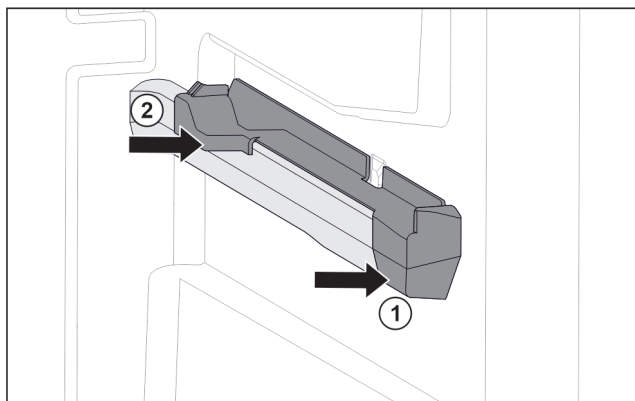

Fig. 75 Attachment on the right moulded rib
- Position attachment on moulded rib at the front. Fig. 75 (1)
- Press on attachment at the back. Fig. 75 (2)